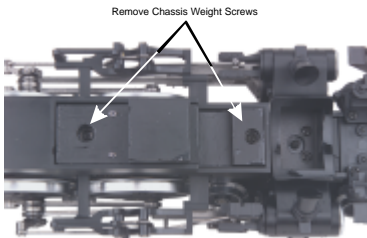

Figure 17: Chassis Weight Mounting Screws
5. Turn the chassis right side up and remove the two chassis weight mounting screws as seen in Figure 17.